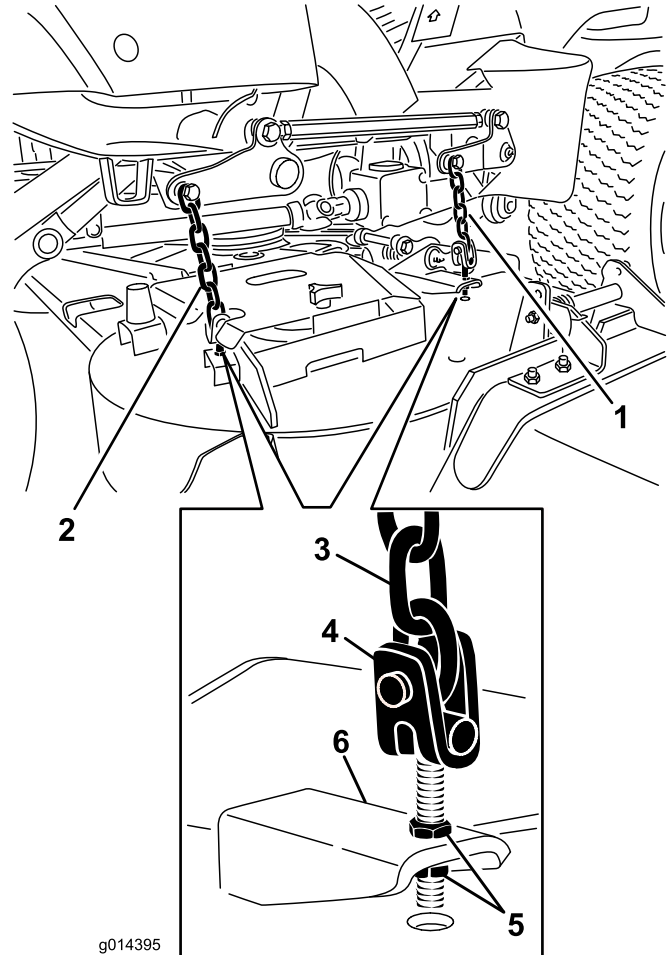

Figure 70
8. Adjust the jam nuts securing the deck yokes/chains to the mower deck until the mower deck is level (Figure 70).
7. Adjust the jam nuts securing the rear deck yokes/chains to raise the rear of the deck so that the blade pitch is set to 5/16 inch (8 mm) (Figure 70).